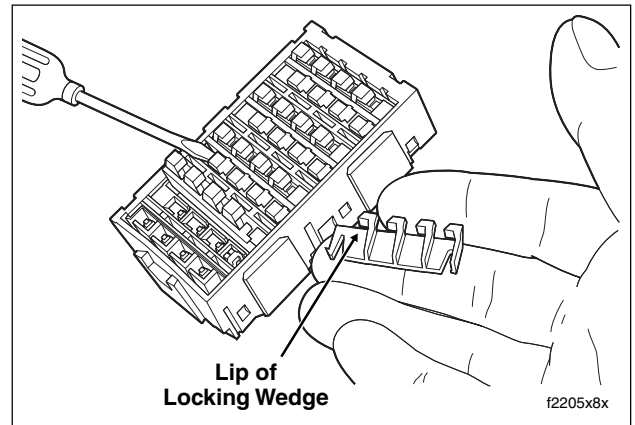

Figure B-22. Remove Secondary Locks From Fuse Block
For best results, start with locking wedge on outboard side of secondary lock. See Figure B-22.
- a. With the locking wedges positioned above the tangs in each chamber, slide flat side of secondary lock into slot (between rows), and push down until it bottoms. See Figure B-22.